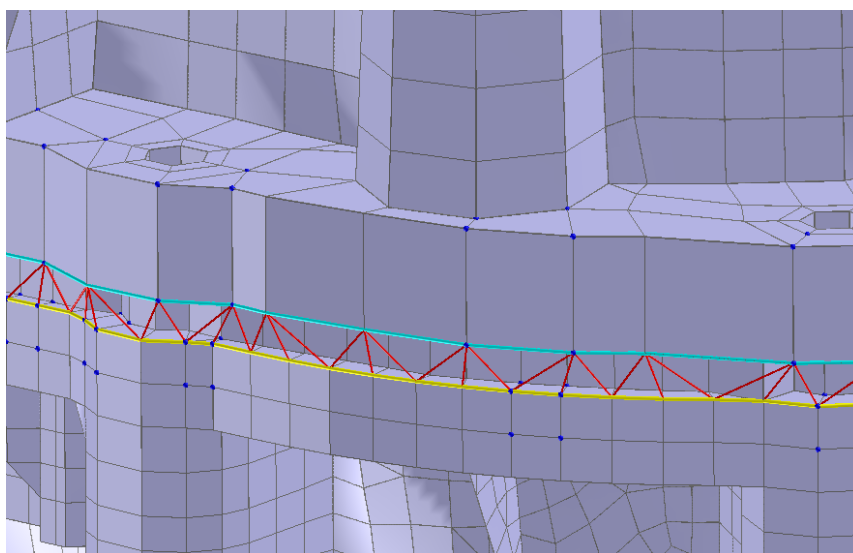

Figure 5.46 Transparent elements shown for inspection before Stitching Seams.
- Once two valid seams are created, *Coustyx* fills up the gap between the seams with transparent 2-D triangle elements for inspection. See Figure 5.46.